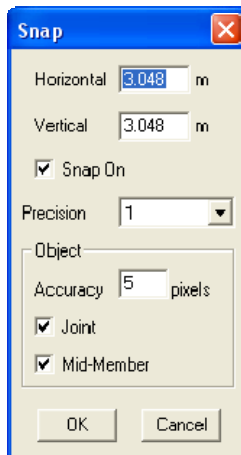

Figure 6-3 Snap dialog box
- From the Options menu, choose Snap. The dialog box of Figure 6-3 appears.